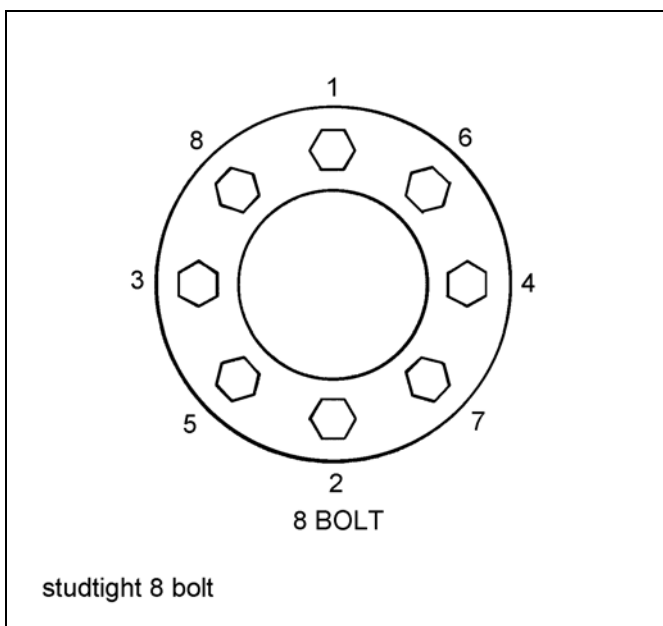

Figure 3-2: Stud Tightening Sequence
4. Install the flange nut and tighten to 50 foot-pounds using the sequence in **Figure 3-2.** Then tighten to full torque of 450-500 ft./lbs.